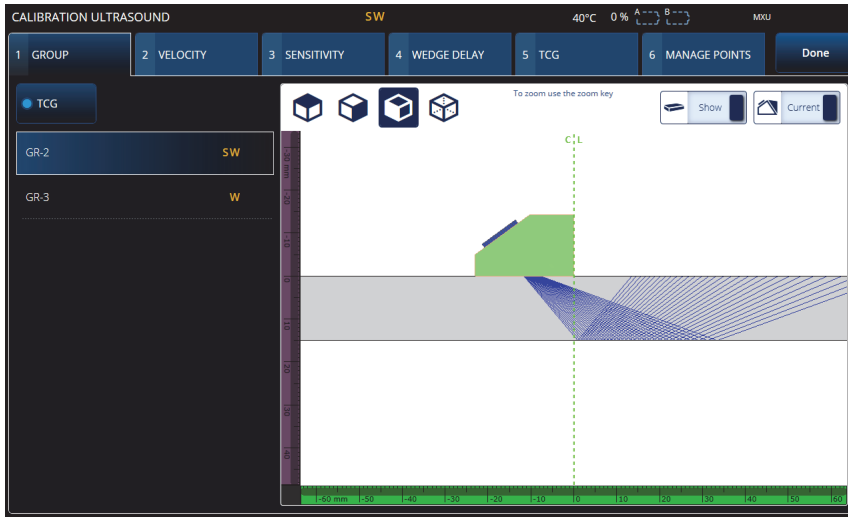

Figure 4-1 Calibration > Group
1. Select  >  **Plan & Calibrate** > **Calibration Tools** to access the **PA/UT/TFM Calibration** wizard (see Figure 4-1 on page 162). See “TOFD Calibration” on page 180 to perform a TOFD calibration. Like the Scan Plan wizard, the Calibration wizard’s workflow is separated into several tabs or sections (for different types of calibration).
2. On the **Group** tab (see Figure 4-1 on page 162), select the group you wish to calibrate. For a UT group, also choose the sizing method to calibrate: **TCG**, **DAC**, or **DGS**.